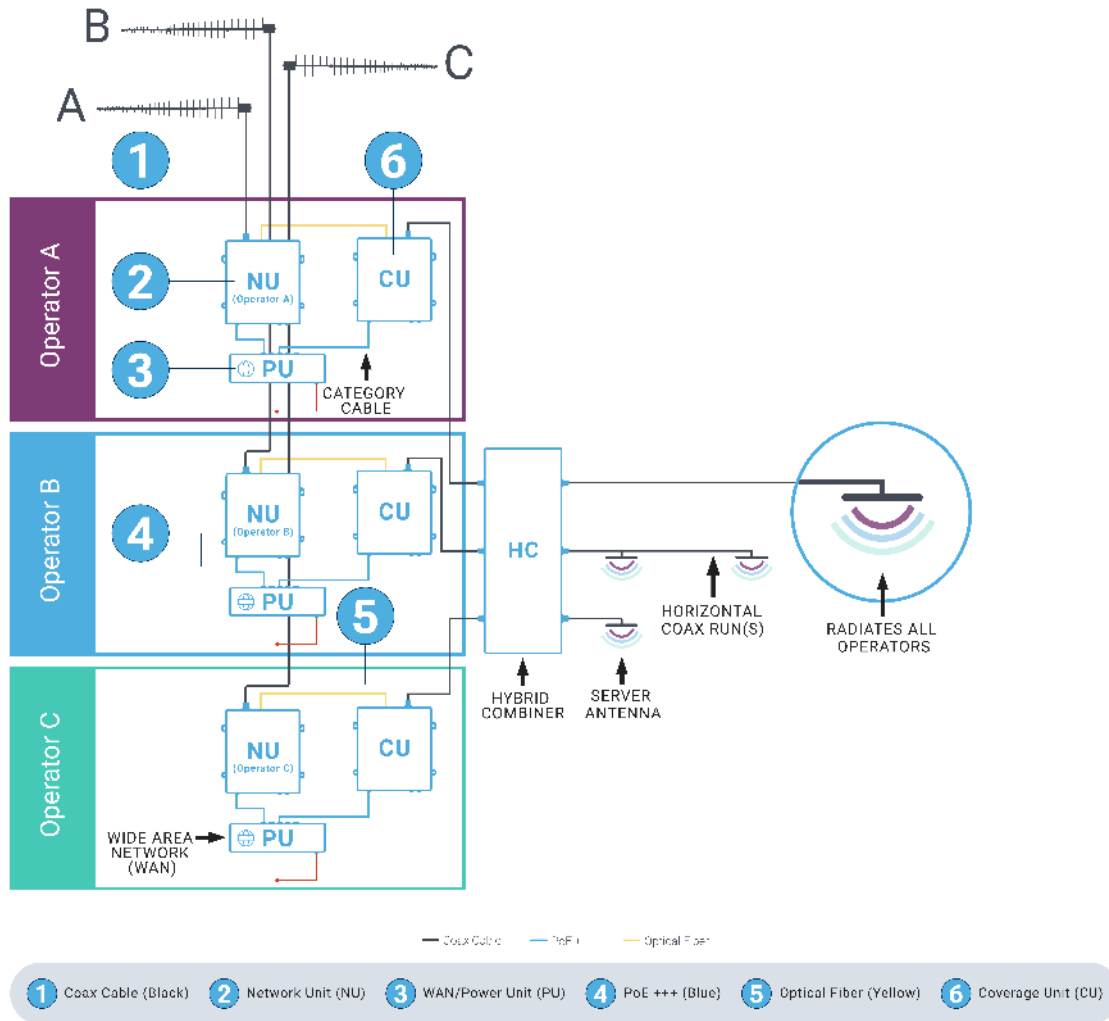

Figure 13: Multi-Operator Setup with Hybrid Combiner – Signals from three operators combined and sent to a shared antenna.
- Hybrid Combiner Method** – In this setup, signals from multiple CUs are combined through a hybrid combiner and then distributed to shared server antennas. Figure 13 below shows an example of a three-operator configuration using this method.